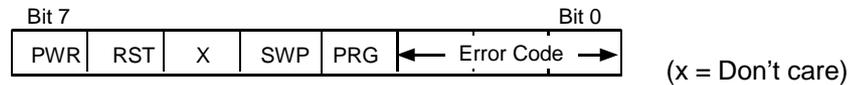

Figure 4.3 Interface control register.
The Interface Control (IC) register (Figure 4.3) appears on two RAM pages, Page 0 and Page 255. On both pages the register is located at address $--100_H$.